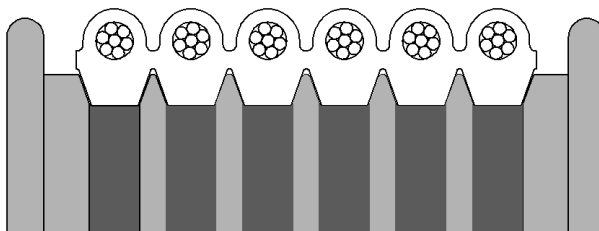

Fig. 17: Traction belt (CONTI POLYROPE® 25-6x2.0) with DP idler [ContiTech]
- The traction member protrusions must be positioned in the pulley grooves of the DP pulley (see Fig. 17).